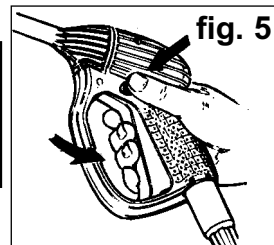

fig. 5
4.2.2. Disengage the safety catch (fig. 5), and press the trigger for a few seconds to allow air to escape and to discharge residual pressure in the pipes.